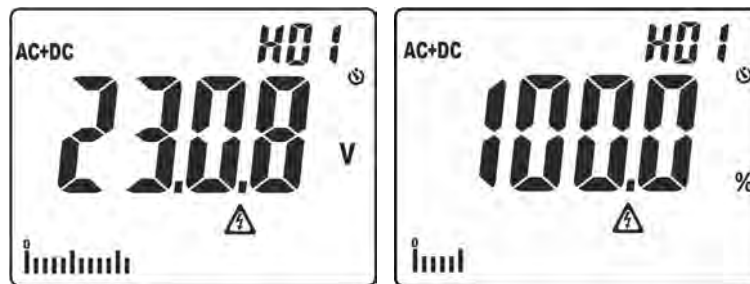

Fig. 3: Display of amplitude of harmonic analysis
- Simple pressing of the key to display the amplitude of voltage and current harmonics up to the 25th (**Hdc**, **H01... H25**) in absolute or percentage format in relationship with the fundamentals of input signals (for voltage values $V_{AC} > 0.5V$ and current values $AC > 0.5A$ and frequency in the range $42.5Hz \div 69Hz$) and the percentage value of parameter **THD%** (see § 9.3) as shown in Fig. 3. Use keys $\blacktriangle/ZERO$ and $\blacktriangledown/\text{Y}$ to increase/decrease the order of the harmonic.